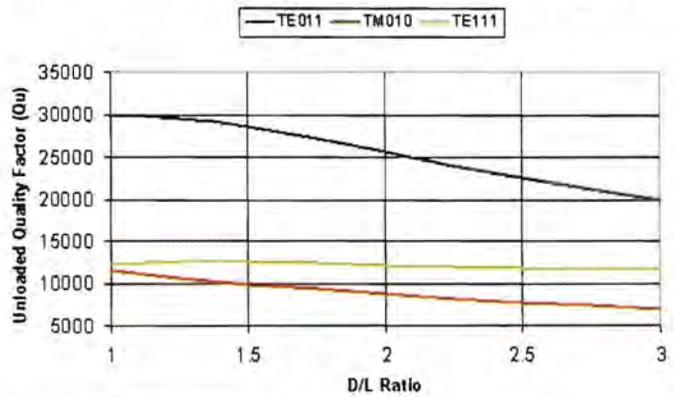

Figure 3: Unloaded Q of TM₀₁₀ microwave cavities
path stages provides the optimum Γ_{L1} (output match) for the output of the first stage. The output match presented to the first stage is designed to provide an optimum power match for that stage and the network also provides a conjugate match for the input of the second stage, the FPD4000AF pHEMT device. This interstage network is effectively composed of two sub-networks to simplify the design process. The second stage's output matching network transforms a standard 50Ω impedance into the optimum load for best power and intercept point performance. Both amplifier stages are operated in Class AB mode, with a quiescent operating current that is about 30% of the IDSS (maximum drain-source current). The TX path 2-stage amplifier can be operated from Class C (lowest current) to Class A (highest current, about 50% of IDSS), depending on the specific needs of the user. **Figure 3** presents the performance of the TX path.
Figure 3: Performance of the transmit (TX) path. The left-hand plot shows small-signal gain and input, output return loss, as a function of frequency in GHz. The right-hand plot shows output power and 3rd-order intermodulation product levels as a function of input power.
In **Figure 2**, the E (electric) and H (magnetic) fields in the cylindrical cavity are shown. We can see also from **Figure 3** that, with $D/L = 1$, very high values of Q are theoretically possible, but this is not compatible with the necessity of avoiding spurious modes (as the TE_{111}), because the adjustment screw normally used (see **Figure 1b**) acts to the modes (TM_{010} and TE_{111}) in a different manner.
To prevent the secondary modes resonance, the TM_{010} cannot be excited in the whole D/L range reported in Figure 3, but only in the part of the graph where the ratio $D/L > 1$. At $D/L \leq 1$, the dominant mode becomes the TE_{111} . Practical values of the D/L ratio to be used are 1.4-2.4 for TM_{010} and 0.45-0.5 for TE_{111} modes.